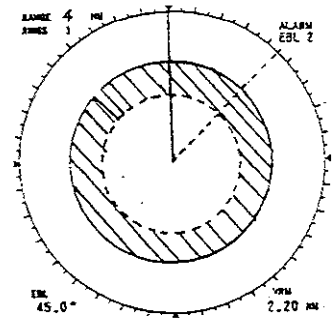

Fig.1-17
9. Then, press  /  to position the EBL at 45°, and hit the SET/RESET touchpad. The setting of the guard zone is now completed. To change the bearing sector, repeat steps 7 and 8. See Fig.1-17 and Fig.1-18.